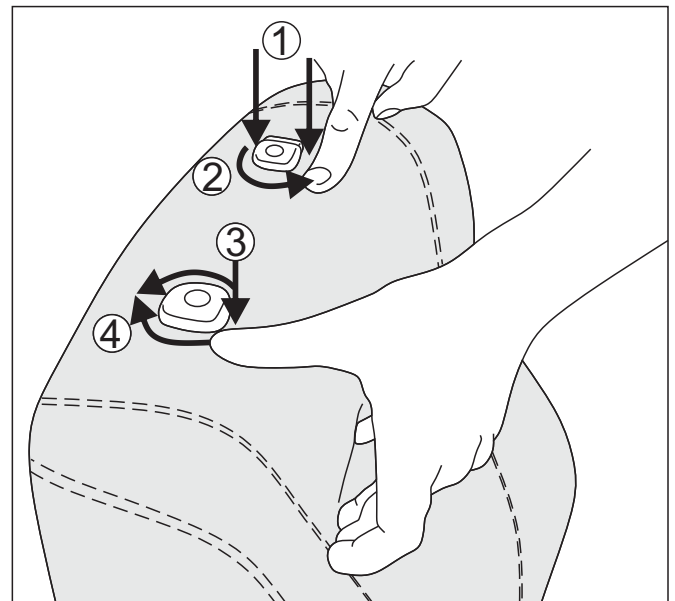

Fig.8
8. Using your fingers, push backrest cover under headrest guide mechanisms to hold the top part of the backrest cover in place and centrally aligned (Fig.8).